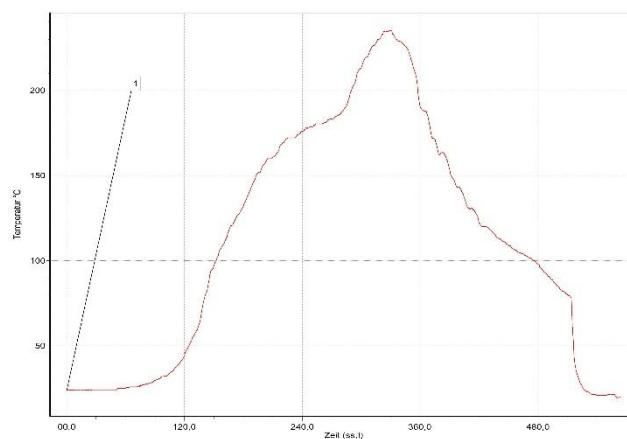

Figure 6 Example of a temperature profile –
- **Figure 6** shows a soldering curve that had been used for a 31 cm² carrier board for single-side assembly.